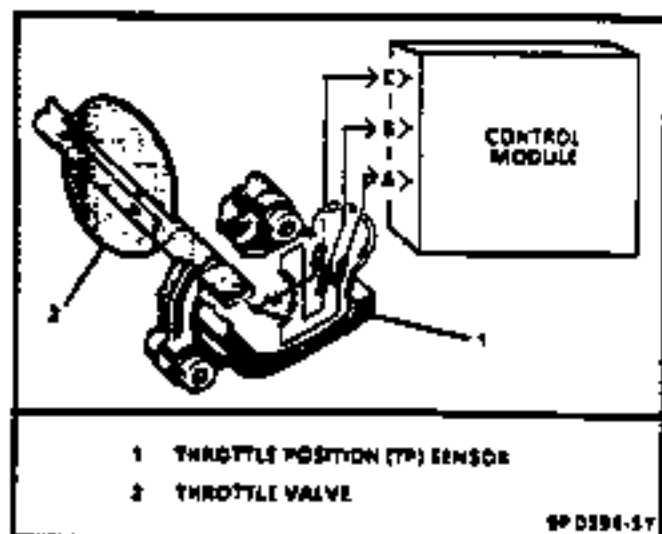

Figure 13 - Typical Throttle Position (TP) Sensor
The Throttle Position (TP) sensor (Figure 13) is a potentiometer connected to the throttle shaft on the throttle body. The TP sensor has one end connected to 5 volts from the ECM and the other to ECM ground.